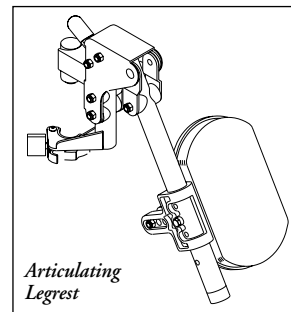

Figure 7
H. ARTICULATING LEGREST OR ELEVATING LEGREST (Fig. 7 & 8) (optional)